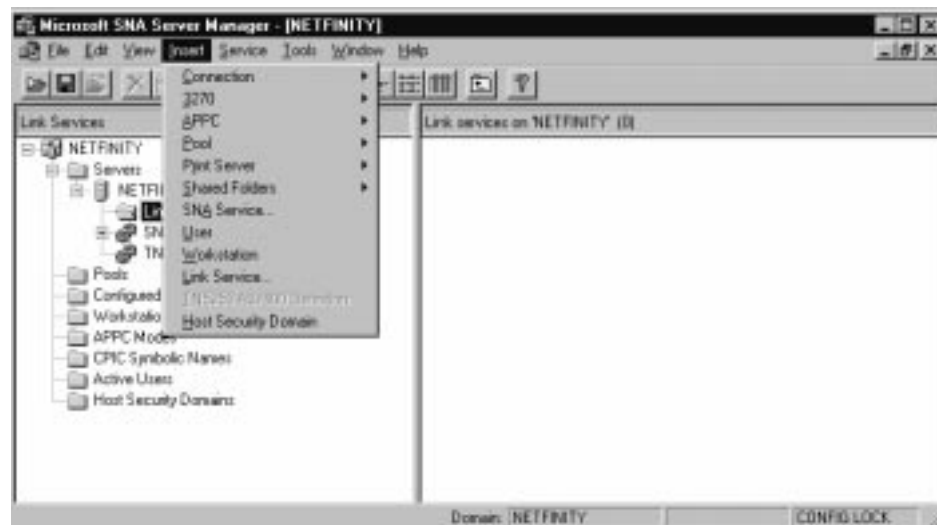

Figure 8-20. Insert Link Service
3. From the Insert pull down menu, select Link Service... (See Figure 8-20).